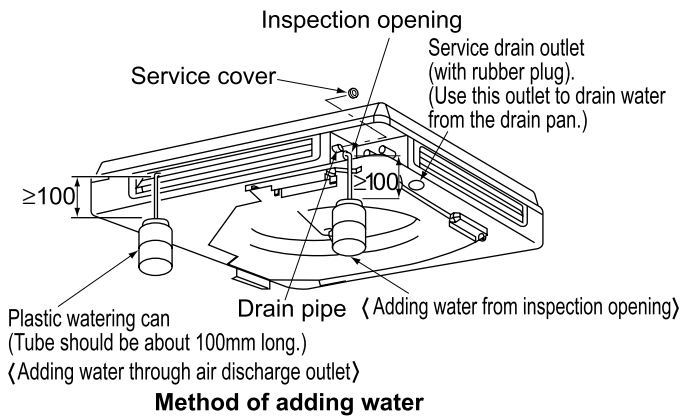

Fig. 30
- Open the water inlet lid, add approximately 1000cc of water slowly and check drainage flow. (Refer to Fig. 30)